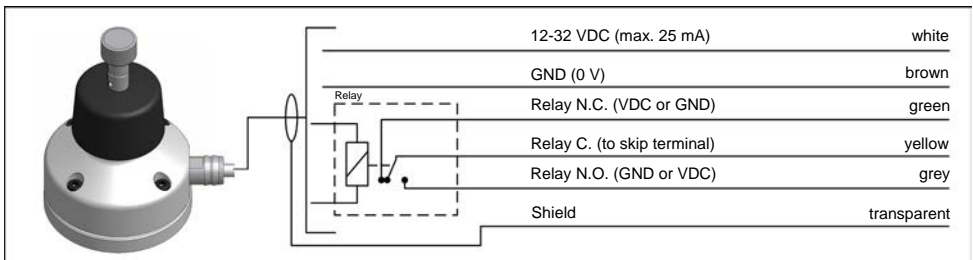

Fig. 10 Electrical Connection
To align the stylus, the measuring surface of the tool setter is touched (manually) by a dial gauge which is installed in the spindle and afterwards the measuring surface is sensed along the X- and Y-axes. The deviation measured with this procedure must be $< 5 \mu\text{m}$ (refer to Fig. 10). If the measured value for the deviation exceeds this limit the stylus must be aligned as follows.
1. Using the hexagon key AF2,5 mm turn the adjustment screws clockwise to lower the tool setter at the appropriate point and to correct the inclination (refer to Fig. 10).